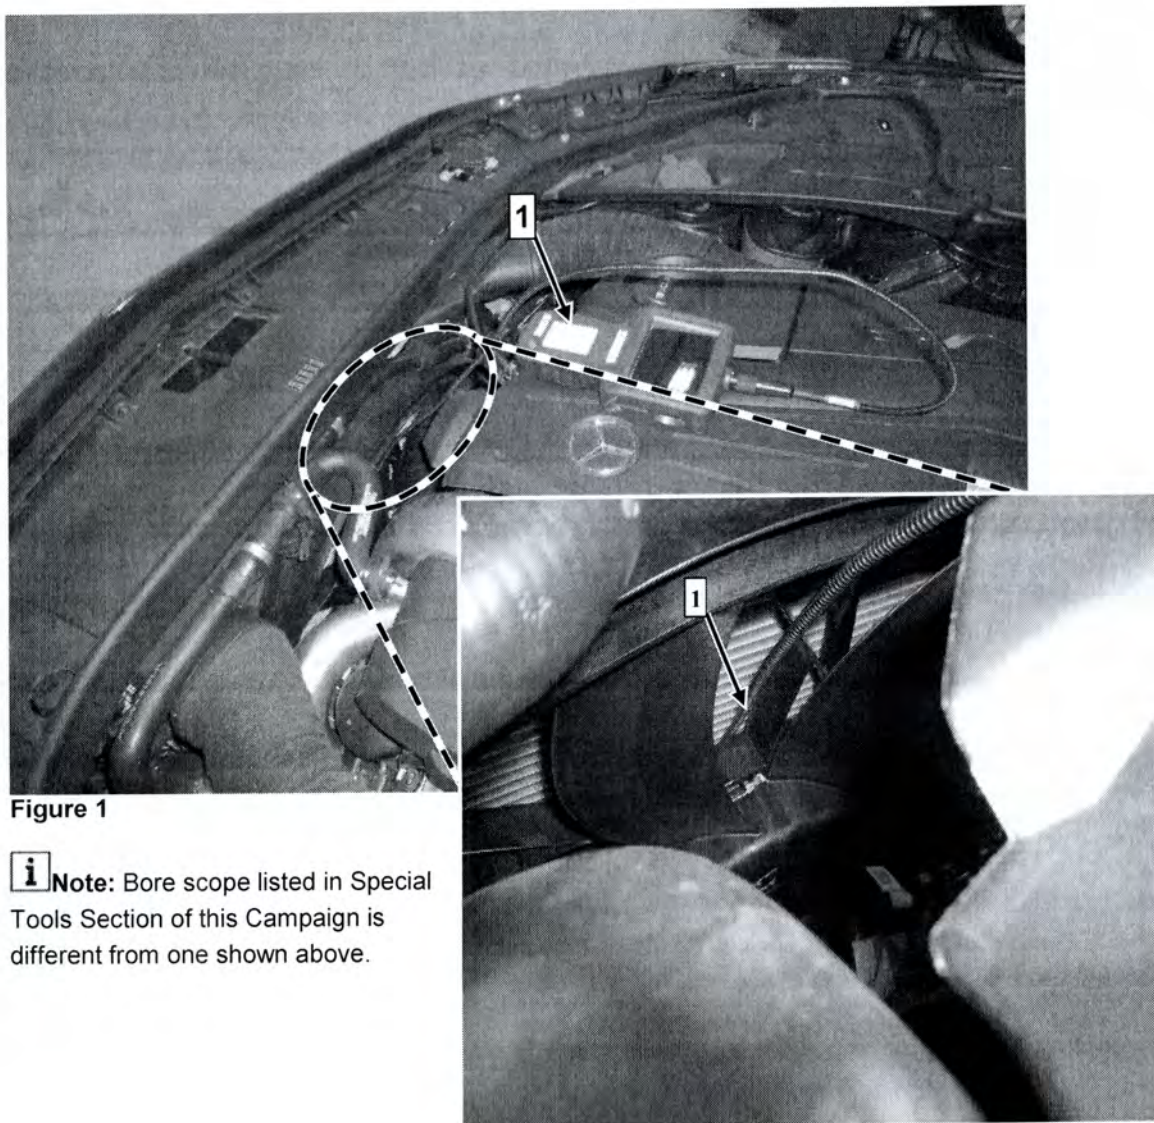

Figure 1
1.  Check production date on radiator fan using bore scope (1, Figure 1):